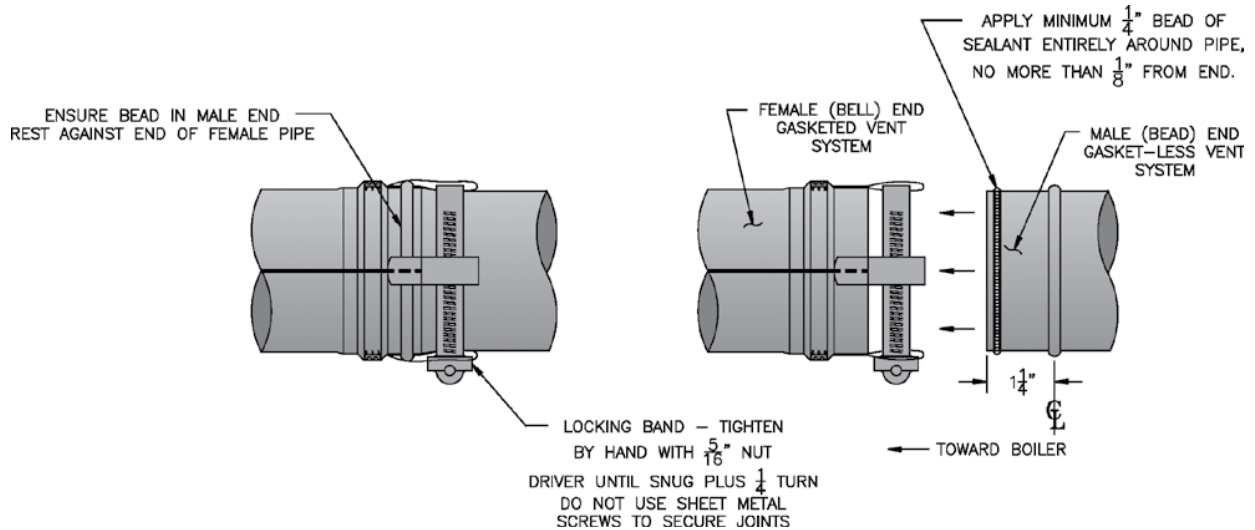

Figure 3C: Burnham Gasket-Less Male and Gasketed Female Vent Joint Detail
1. Procedure for joining the male end of Burnham Gasket-Less Vent with the female end of Burnham Gasketed Vent. See Figure 3C.